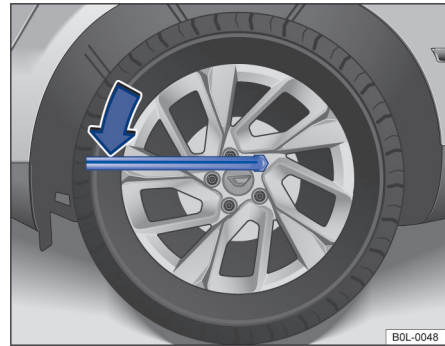

Fig. 153 Changing a wheel: loosening the wheel bolts
- Fit the box spanner over the wheel bolt as far as it will go. → Fig. 153